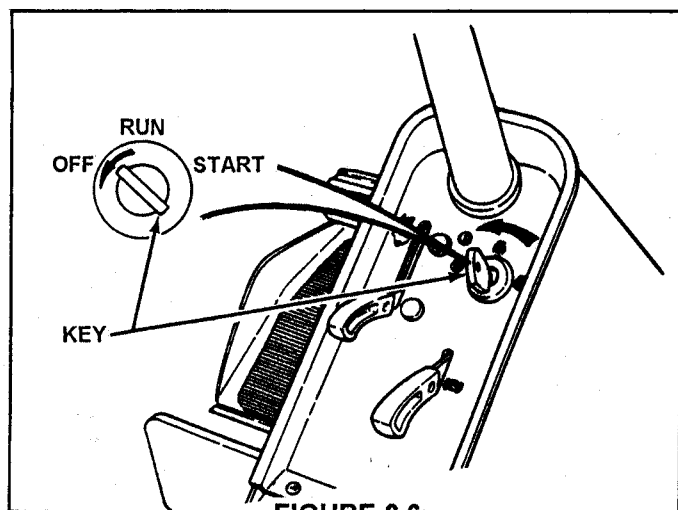

FIGURE 2.6
1. Stop engine by turning key to the "OFF" position. See Figure 2.6.